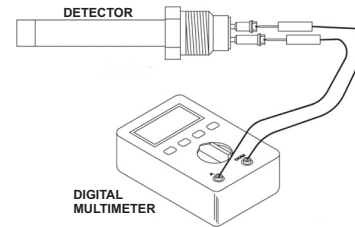

Figure 3. No-Continuity Test Setup
1. Connect one lead of a digital multimeter (DMM) to one of the two terminal posts of the detector and the other lead of the DMM to the other terminal post. See the no-continuity test setup in Figure 3.